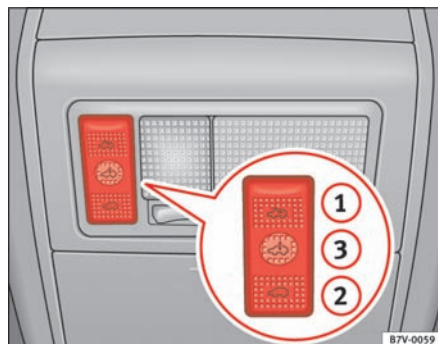

Fig. 67 Roof trim: switch for sliding/tilting roof
- Press the surface ⇒ fig. 67 ①.
If the sliding/tilting roof has been opened again by the roll-back function, it can be closed only by pressing button ⇒ page 104, fig. 67 ③ until the sliding/tilting roof has closed fully. **The sliding/tilting roof then closes without the roll-back function.**